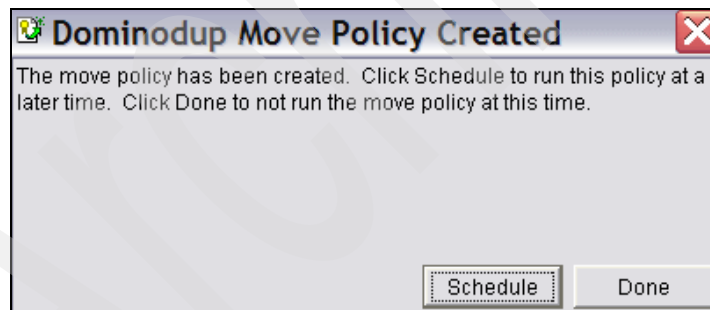

Figure 5-51 BRMS virtual move policy, created
9. Click **Done** in the Move Policy Created window shown in Figure 5-51.